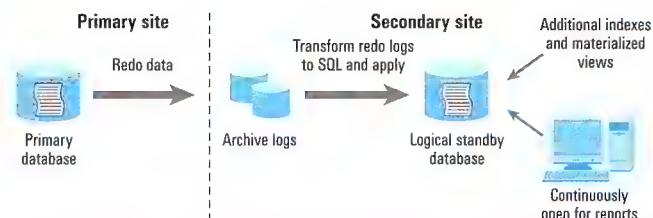

Figure 2. Data Guard SQL Apply (logical standby database)
- **SQL Apply process on a logical standby database:** A logical standby database contains the same logical information as the primary database, but the physical organization and structure of the data may be different. The SQL Apply process keeps the logical standby database synchronized with the primary database by transforming the redo data received from the primary database into SQL statements and then executing the SQL statements on the standby database (see Figure 2). This enables the logical standby database to be accessed for queries and reporting purposes at the same time the SQL statements are being applied to it.